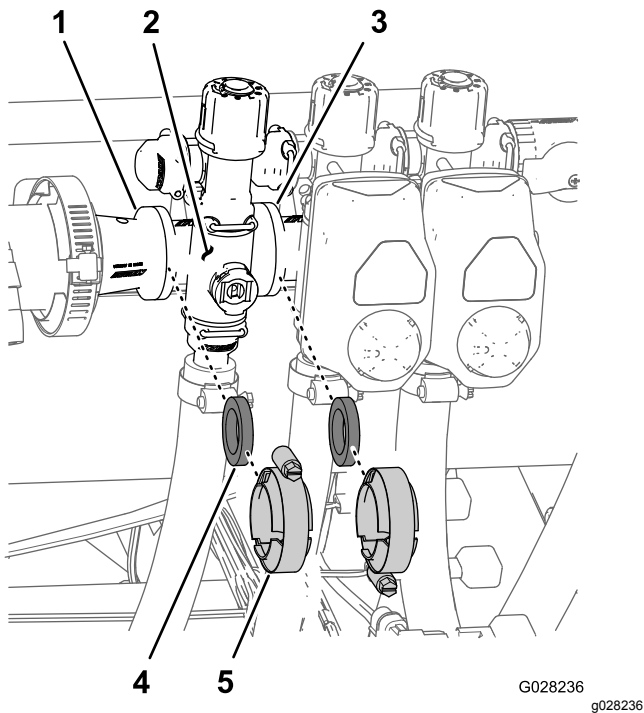

Figure 102
1. Remove the clamps and gaskets that secure the manifold for the section valve to the adjacent section valve (if left, section valve and the reducer coupling) as shown in Figure 102.